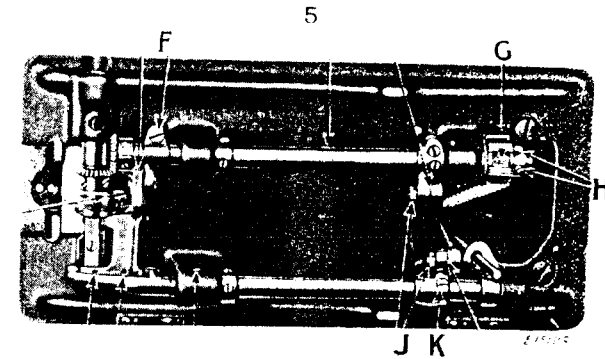
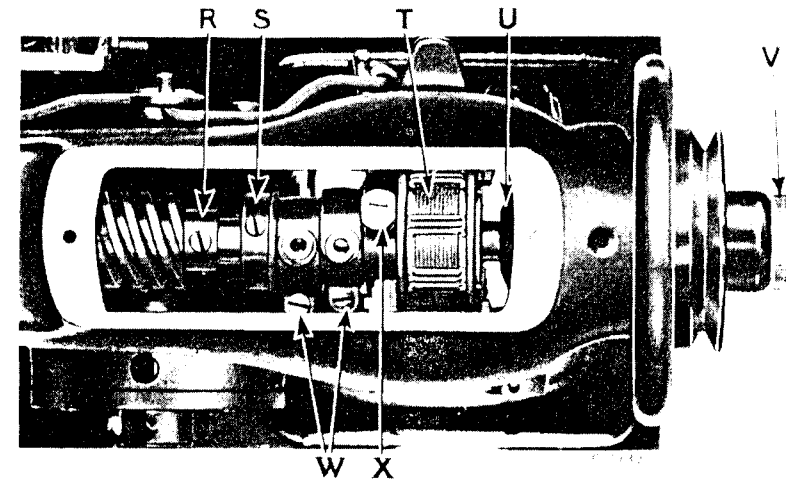

Fig. 4. Base View of Machine, Showing Oiling Points
Fig. 21.
Remove the belt and turn the machine back on its hinges and apply oil at the places designated by arrows, as shown in Fig. 4 and all other places where there are parts in movable contact.
To take up the lost motion of the feed driving and lifting connections, adjust their hinge screws (J, Fig. 4) and pinch screws (W, Fig. 21).
To prevent the feed dog from striking the ends of the throat plate slots, loosen the screw (K, Fig. 4) and move the feed dog forward or backward until the longest stitch can be taken without the feed dog striking the throat plate, then tighten the screw (K).
Loosen the screws (R, Fig. 21) in the worm gear on the arm shaft and turn the balance wheel over toward you or over from you, as the case may be. The time of the needle vibration cam should be such as to finish the extreme left vibration of the needle just prior to the entrance of the needle into the material; or, in other words, as slow as is practicable before the needle point enters the material.
Slide the arm shaft connection belt (G, Fig. 4) off the hook driving shaft belt pulley, and remove the feed regulating spindle (V, Fig. 21) and the balance wheel; loosen the rear arm shaft bushing set screw (C, Fig. 3) at the back of the arm and remove the bushing (U, Fig. 21); lift the belt (T, Fig. 21) up through the arm cap hole as far as possible and draw it out through the space formerly occupied by the bushing (U).
Remove the belt (T, Fig. 21) from lower and upper pulleys. Remove the set, regulating and compression screws from the feed
driving eccentric bracket (X, Fig. 21), loosen the set screws and remove the position screws from the belt pulley, the feed lifting eccentric (S, Fig. 21) and from the needle bar crank through the hole (A, Fig. 2); loosen the set screws in the needle vibrator worm (R) and draw out the shaft from the balance wheel end of the machine.